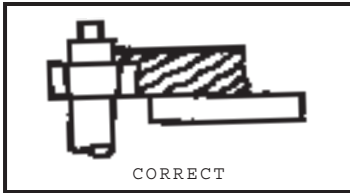
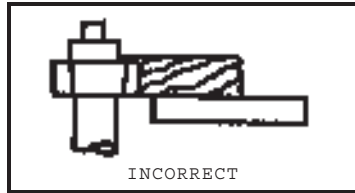

Fig. 1
Fig. 2
7. WHEN SHAPING with piloted bit, the pilot must have sufficient bearing surface ($\frac{1}{8}$ " minimum) as shown in Fig. 1. Fig. 2 illustrates the INCORRECT method for this operation as the pilot DOES NOT have sufficient bearing surface.